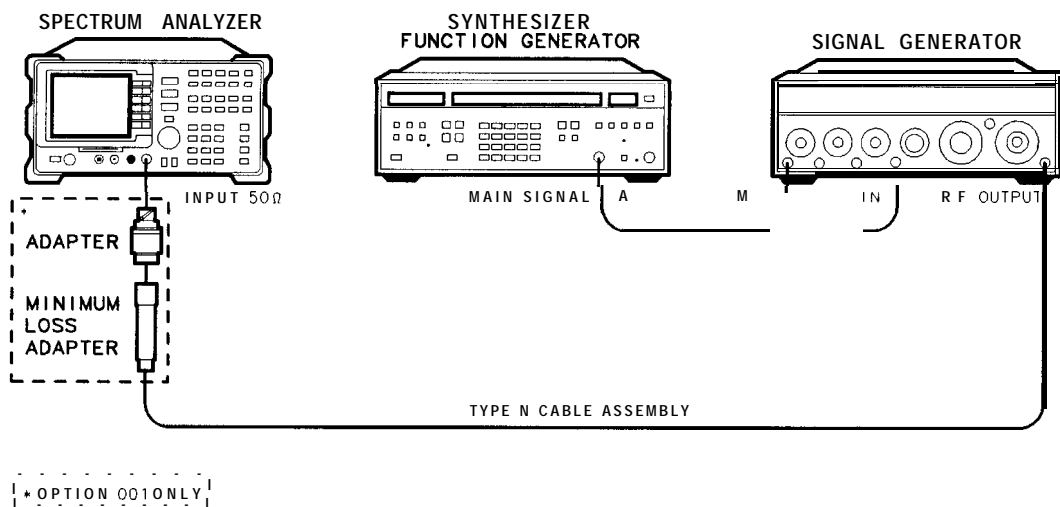

Figure 1-6. Sweep Time Accuracy Test Setup
3. Connect the equipment as shown in Figure 1-6.